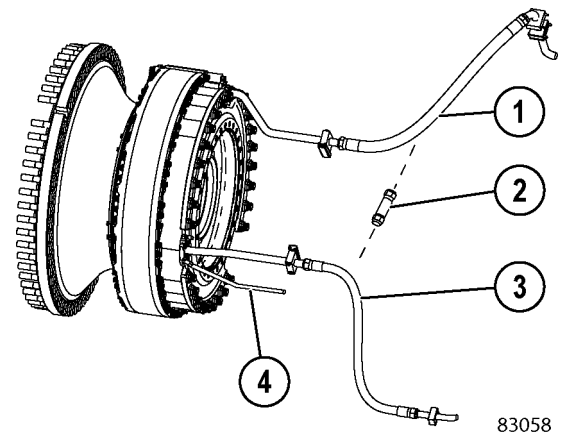

FIGURE 10-7. FRONT WHEEL BRAKE LINES
11. At the left front brake assembly, connect cooling hoses (1 & 3, Figure 10-7) together using adapter (2). Cap the open fittings on the brake assembly. At the right front brake assembly, connect the two cooling hoses together using another adapter. Cap the open fittings on the brake assembly.